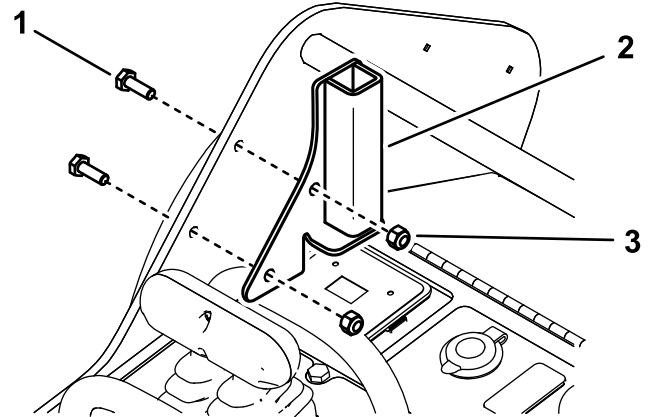

Figure 7
3. Install the left shield bracket on the left frame using 2 bolts (1/4 x 3/4 inch) and 2 Locknuts (1/4 inch) as shown in Figure 7.
4. Install the right shield bracket on the right frame 2 bolts (1/4 x 3/4 inch) and 2 locknuts (1/4 inch), similar to Figure 7.